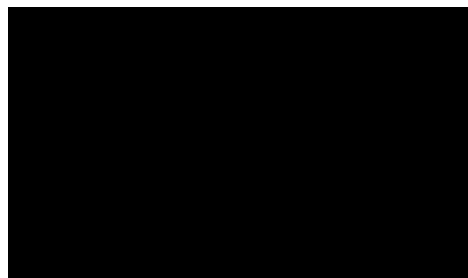

Figure 35 Practice Alphanumeric Commands, Box, and Line in High Resolution
8. Use another Justification (J) and Horizontal Tab (T) sequence to place a horizontal line under "IGP." Position the line 2.025 inches (*jus*) down, which is 1.5. inches under the name. Tab the line to 1.525 inches (*dis*) from the left margin which begins the line just inside the left edge of the box. Use a Solid Line (LS) command to create a line 2.925 inches long horizontally (*horz*) and 0.005 inches wide vertically (*vert*). Add this data to the file before the sequence terminator. The printed result is shown in Figure 35.